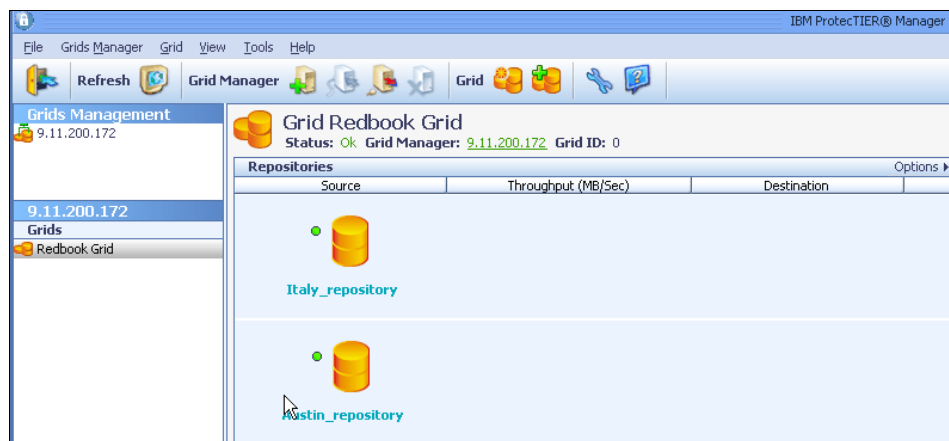

Figure 5-103 ProtecTIER Replication Manager view with both repositories
- After a successful addition of the source repository, all steps must be repeated for the target repository. After you add the source repository, you can set up the replication policies. Figure 5-103 shows both repositories in the grid.